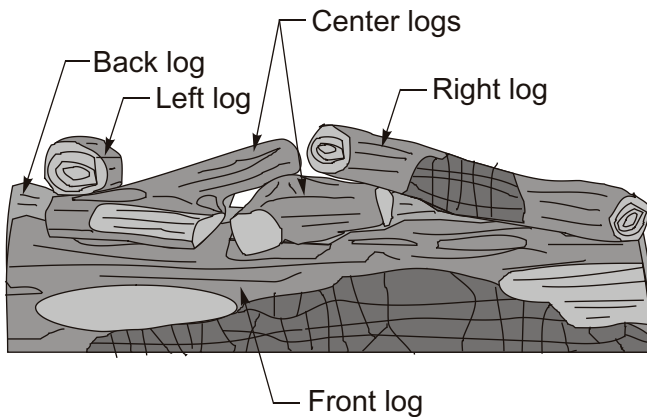

Figure 28. Log placement as seen from the front of the stove.
- Have the fireplace installation inspected yearly, including a visual check of the vent system, the burner and the pilot flame. For your convenience a 1/8" manifold pressure tap is supplied on the gas valve for a test gauge connection. See Figure 28.